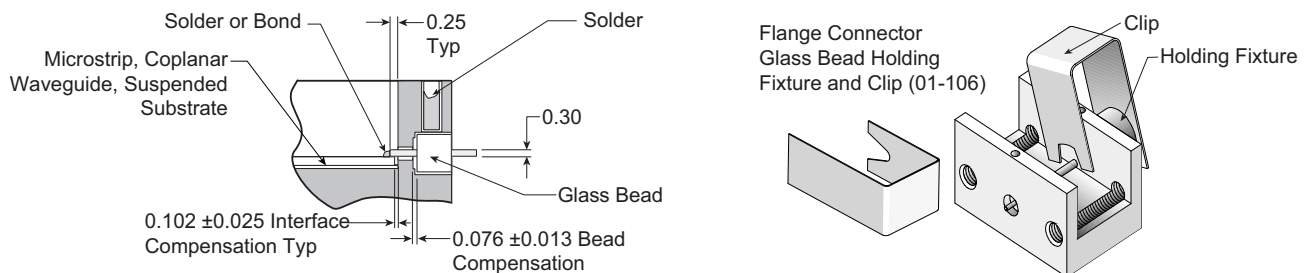

Figure 8-3. K104F-R Glass Bead Assembly
1. Install the microstrip into the housing (see Figure 8-3 for dimensional tolerances around the glass bead).
3. Flux the glass bead and insert it, long-end first, into the 01-103 Glass Bead Holding Fixture (Figure 8-3).
5. Secure the holding fixture in place by using the spring clip furnished with the fixture (Figure 8-3). Position the spring clip so as not to obstruct the solder access hole in the housing. Ensure that the glass bead is centered and that it is making good contact with the microstrip.